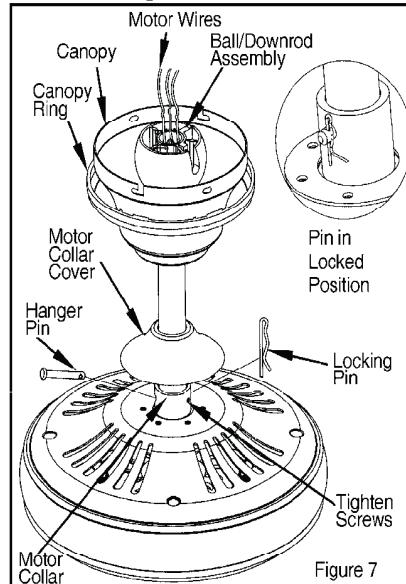

Figure 7
the fan motor through the decorative motor collar cover then the canopy ring. Make sure the slot openings are on top. Route the wires through the canopy and then through the ball/downrod assembly (Figure 7).
6. Align the holes at the bottom of the downrod with holes in the collar on top of the motor housing (Figure 7). Carefully insert the hanger pin through the holes in the collar and downrod. Be careful not to jam the pin against the wiring inside the downrod. Insert the locking pin through the hole near the end of the hanger pin until it snaps into its locked position as noted in the circle inset of Figure 7.